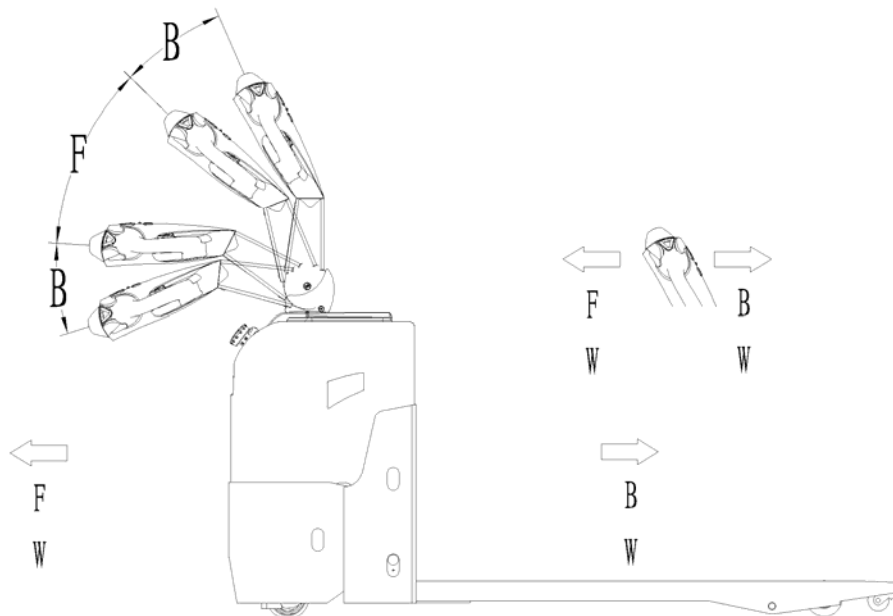

Fig. 9: Operating direction
After starting the truck by turning on the key switch (8), move the tiller to the operating zone ('F', fig.9).
Turn the accelerator button to the desired direction forward 'Fw.' or backwards 'Bw.' (fig. 9).